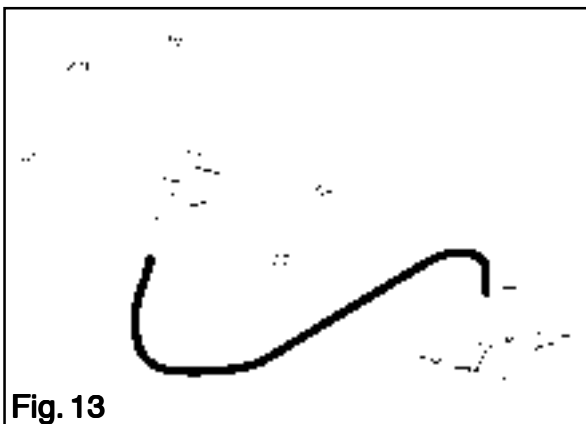

Fig. 13
- Verify that there is continuity between 85 and 86 (Fig. 13).